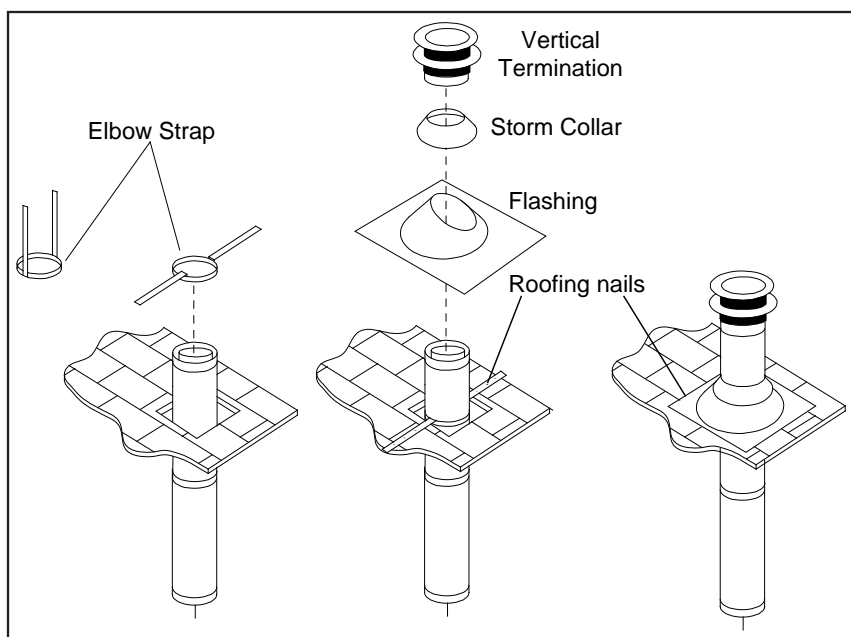

Figure 46. Vertical Vent Termination
- Step 9.** Slip the storm collar over the pipe, and push it down to the top of the roof flashing as shown in Figure 46. Use the non-hardening sealant around the joint between the pipe and the storm collar.